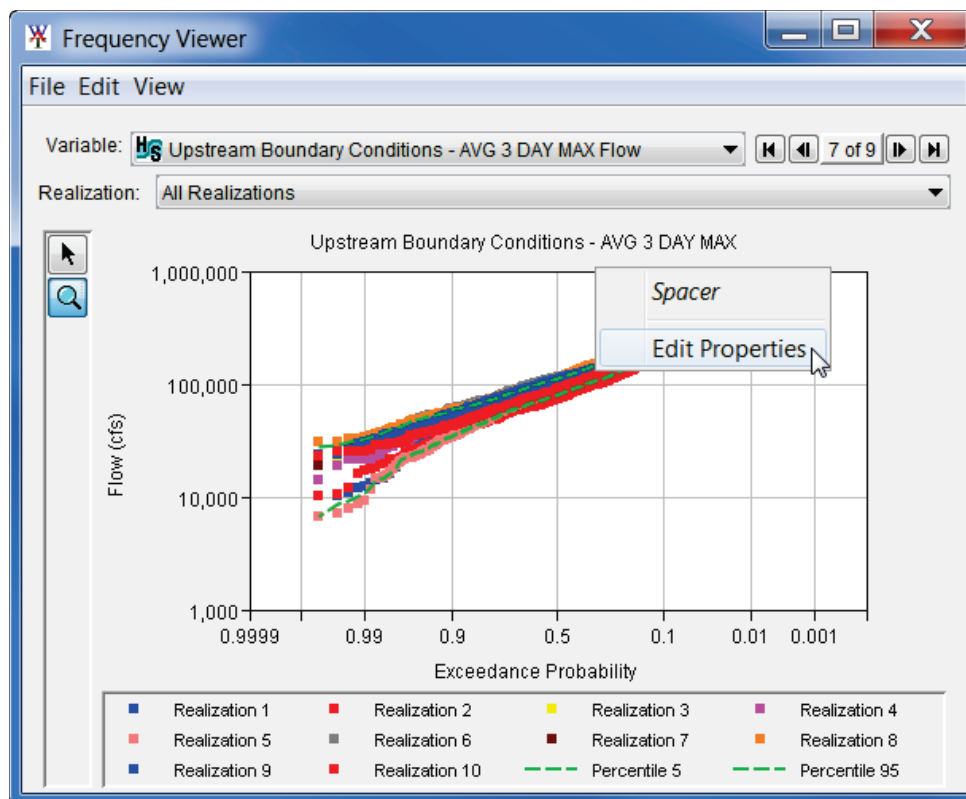
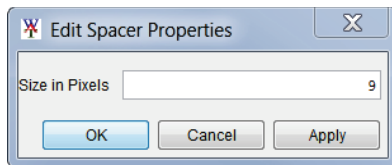

Figure M.22 Plot – Spacer Shortcut Menu
Figure M.23 Edit Space Properties Dialog Box
Spacers specify the distance between viewports, between a viewport and the legend, and the width of side margins. From a plot window, right-click on the space between the title and the plot (viewport), from the shortcut menu (Figure M.22), click **Edit Properties**. The **Edit Space Properties** dialog box will open (Figure M.23), from the **Size in Pixels** box, enter a number that will increase/decrease the distance between the title and the plot. Click **OK**, the **Edit Space Properties** dialog box will close (Figure M.23), and the modification to the spacer will have been adjusted.
- c. From the **Icon** box (Figure M.33), the user add a graphics file to a legend panel block. Next to the **File** box (Figure M.22), click , an **Open Browser** will open (Figure M.34). Browse to the location of a graphics file, select the file, click **Open**, the **Open Browser** will close (Figure M.34). In the **File** box (Figure M.33), the location and name of the selected file will be displayed. Click **Apply**, the selected graphic will display in the legend panel block. Be sure to size the graphic before adding it to the legend panel block.